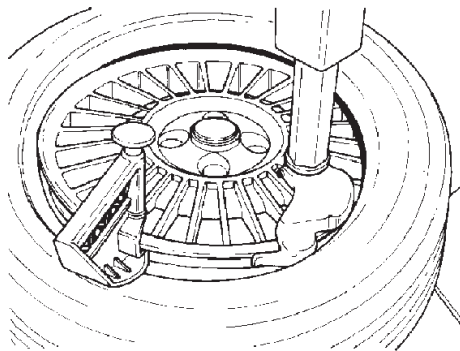

Fig.4.2-4
**C.** Mount the upper bead following the directions in section B. With low profile tires the bead holding clamp (option 66735 Fig.4.2-4) can help to prevent the top bead from prematurely seating during the mounting cycle.